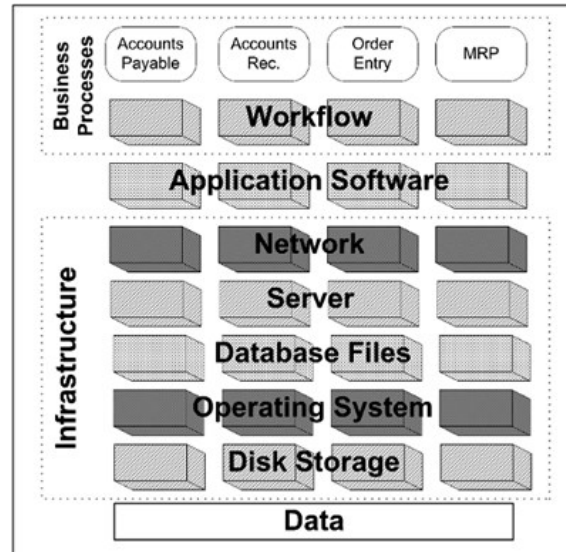

FIGURE 10-1: Information technology (IT) infrastructure.
A modern corporate computing environment consists of several components that build on each other to support the functions of the business. You must understand each of these components and how they relate to your business process to create an effective recovery strategy. At the foundation of this infrastructure are data. Figure 10-1 shows the typical components of an information technology (IT) infrastructure.